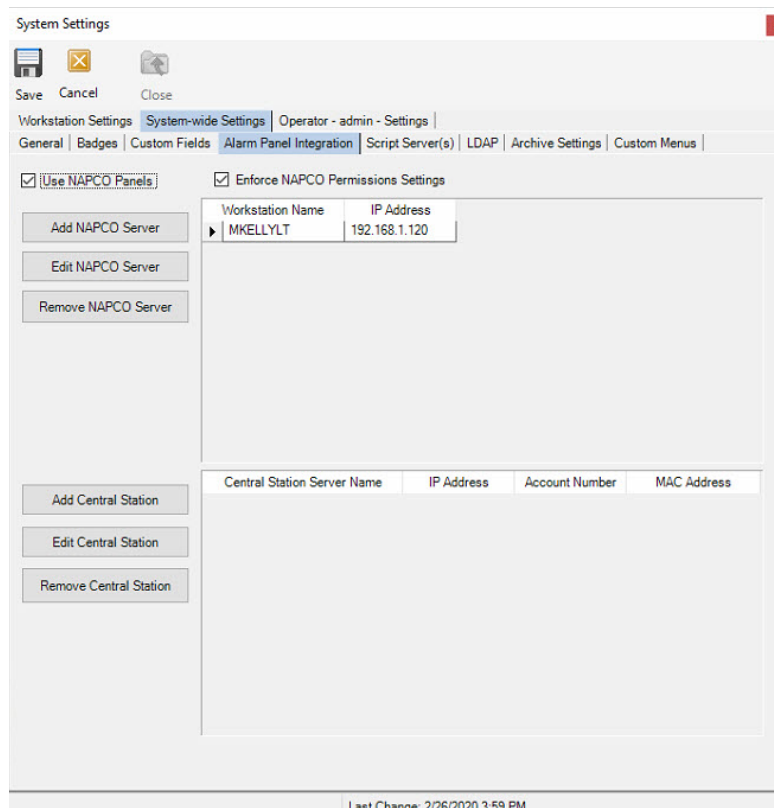

Figure 6.
2. **Enable Napco Integration** and configure the screens as per the following steps (refer to the Figure 6).
- Select the **UNC name of computer** for the **Workstation**. (This is the workstation name in figure 6)